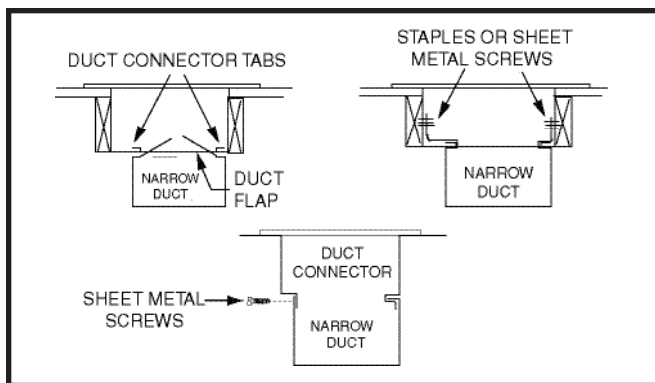

Figure 10. Narrow Ducts
- Score and cut the top of the supply air duct as indicated in Option 1 or Option 2 (Figure 10). With Option 1 choice, cut out the metal from the shaded area.